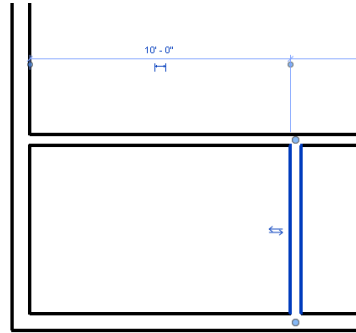

Figure 3-64 The adjusted inner wall distance
4. Now, click temporary dimension on the left, enter the value **10'(3048 mm)**, and then press ENTER; the interior wall is moved to the desired distance 10'-0" from the interior face of the exterior wall, as shown in Figure 3-64.